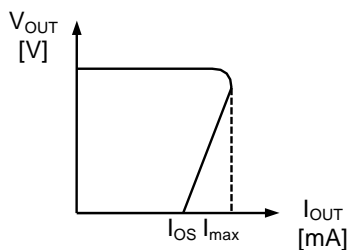

Figure 19
The S-87x Series has a built-in short-circuit protection circuit to protect the element from break caused by a large current in case of a short circuit. The output short current is internally limited to approx. 70 mA. Short-circuit protection circuit has three kinds characteristics according to input voltage (VIN) as shown in **Figure 19 to 21**.
- (1) At the time of voltage detection, the voltage regulator is shutdown and load current is cut. Therefore, VIN pin voltage increases by $\Delta V_{IN} = I_{IN} \times R_{IN}$, where the current flowing into R_{IN} is set to I_{IN}. Hence, if ΔV_{IN} exceeds hysteresis width (V_{HYS}), oscillation starts immediately after detection and continues. It is necessary to set ΔV_{IN} less than V_{HYS}.
- (2) At the time of voltage release, the voltage regulator is powered on and load current flows. Therefore, if ΔV_{IN} exceeds hysteresis width (V_{HYS}), oscillation starts immediately after release and continues. It is necessary to set ΔV_{IN} less than V_{HYS}. Also at the time of voltage release, the rush current to charge output capacitor (C_{OUT}) flows. Hence, oscillation momentarily starts until the output of regulator (V_{OUT}) rises high enough even though ΔV_{IN} is set less than V_{HYS}. But Short-circuit protection circuit controls the rush current less than I_{MAX} on Figure 19 to 21. If this momentary oscillation is a problem in your application, setting R_{IN} less than V_{HYS}/I_{MAX} prevents oscillation.